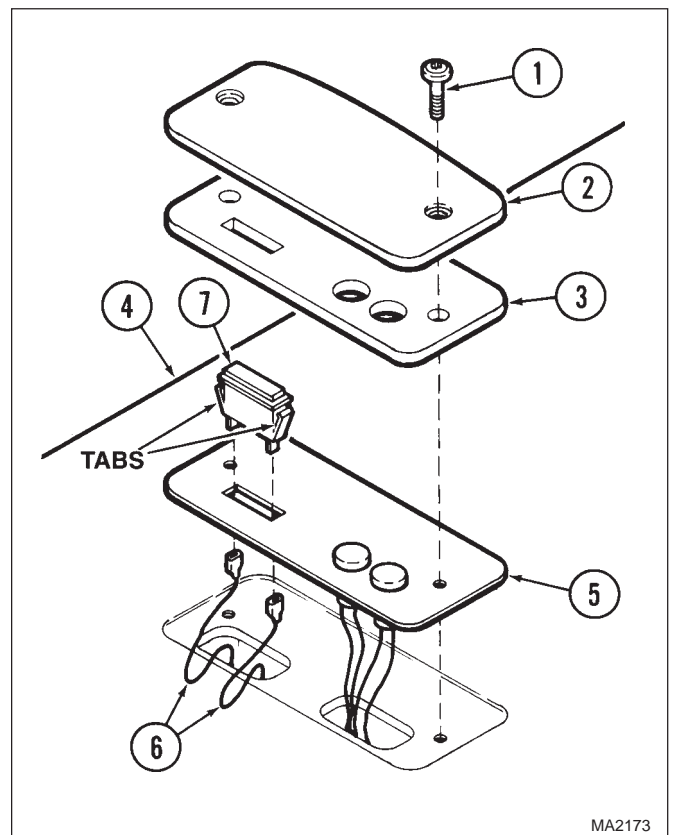

Figure 4-50. ENABLE Lamp Removal / Installation
- (1) Disconnect all electrical power from surgery table.
- (2) Remove two bolts (1, Figure 4-50), name plate (2), and light gasket (3) from base casting (4).
- (3) Partially separate light bracket (5) from base casting (4).
- (4) Disconnect two wires (6) from terminals of ENABLE lamp (7).
- (5) Press on two tabs of ENABLE lamp (7), while simultaneously pulling the ENABLE lamp out of light bracket (5).